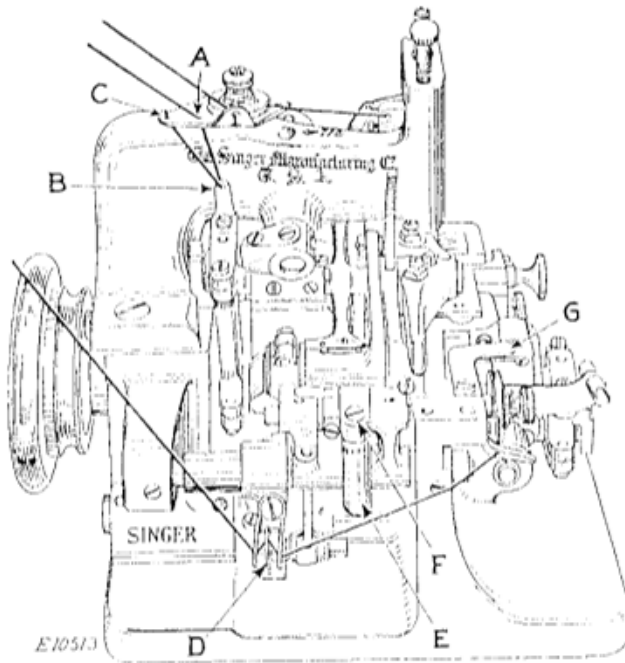

FIG. 11
NOTE: Machines 81-2, 81-5, 81-7, 81-9, 81-22 and 81-23 have a thread pull-off (D, Fig. 11) at the back of the machine under the work plate, and Machine 81-12 has a thread pull-off above the work plate. When threading these machines, pass the thread from the unwinder through the thread pull-off as shown in Fig. 11, then continue as instructed above.
Machines 81-2, 81-5, 81-22 and 81-23 have a thread nipper (G, Fig. 11) for the left hand looper thread. When making the three-thread, single purl stitch on any of these machines, the thread should be passed from the tension discs (BB), between the nipper blades (G, Fig. 11) and through the thread tube (CC).
NOTE: Machines 81-2, 81-5, 81-7, 81-9, 81-16, 81-20, 81-21, 81-22 and 81-23 have a thread pull-off (B, Fig. 11) at the top of the needle bar connecting rod. When threading any of these machines, have the thread pass down through the hole (A, Fig. 11) in the tension bracket, through the hole in the pull-off (B), then up through the hole (C, Fig. 11) in the tension bracket and continue as previously instructed.
The height of the rear feed dog on Machine 81-22 may be changed by loosening the clamping screw (F, Fig. 11) and moving
the lever (E, Fig. 11) up or down. For more stretching of the material as it leaves the needle, the lever (E) should be moved upward. To prevent stretching, or to produce a gathering effect, move the lever downward. The screw (F) should then be tightened to prevent this adjustment from changing.